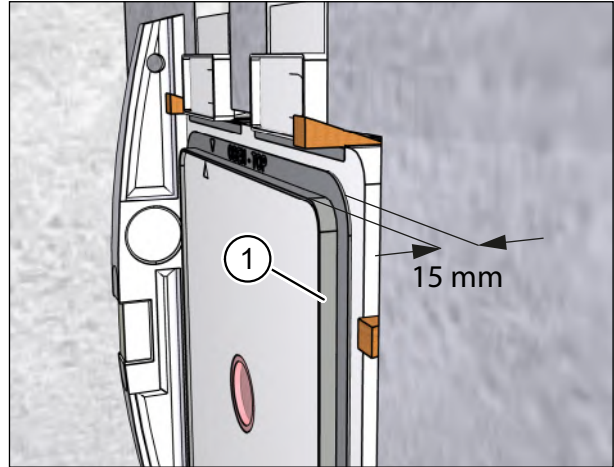

Fig. 20: Depth of plastering trim 15 mm
The plastering trim is 15 mm deep (see Fig. 20).
- ▶ If the interior wall is not perpendicular or flat, align the front surface of the plastering trim (item 1 in Fig. 20) parallel to a plaster stop bead running vertically.